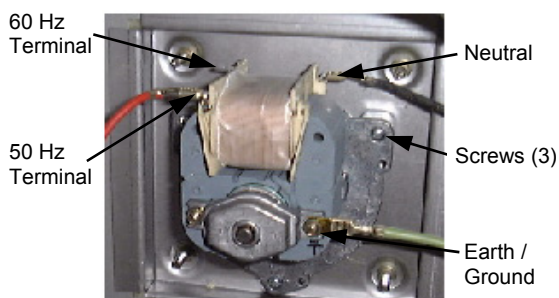

Figure 6.3.17
- 5) Ensure wire connections are correct to the voltage supply—60 Hz / 50 Hz (fig 6.3.17)